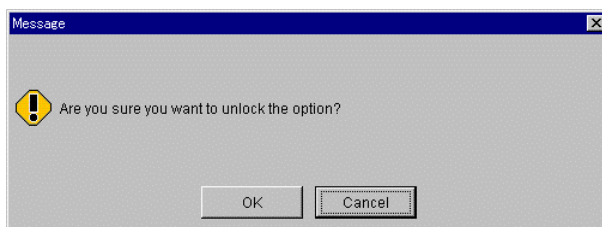

Figure 2.3 The Unlock Confirmation Request Message
6. A message appears, requesting a confirmation to unlock the SANTinel 9500V feature. Click the **OK** button (see Figure 2.3).